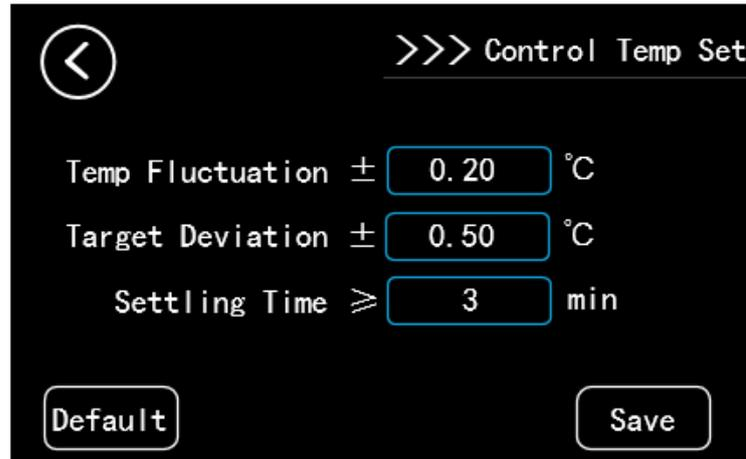

Fig 4.5 System System Interface
**Temperature control setting:** Used to determine whether the temperature control reaches the stable state. As shown in Figure 4.5, taking the parameters in the figure as an example, when the measured temperature reaches to setting temperature point within the deviation of  $\pm 0.50^{\circ}\text{C}$  and the fluctuation is less than or equal to  $\pm 0.05^{\circ}\text{C}$  for 3 minutes, the system will determine that the temperature control is stable. At this moment, the users can collect the measured data of the sensor under inspection.